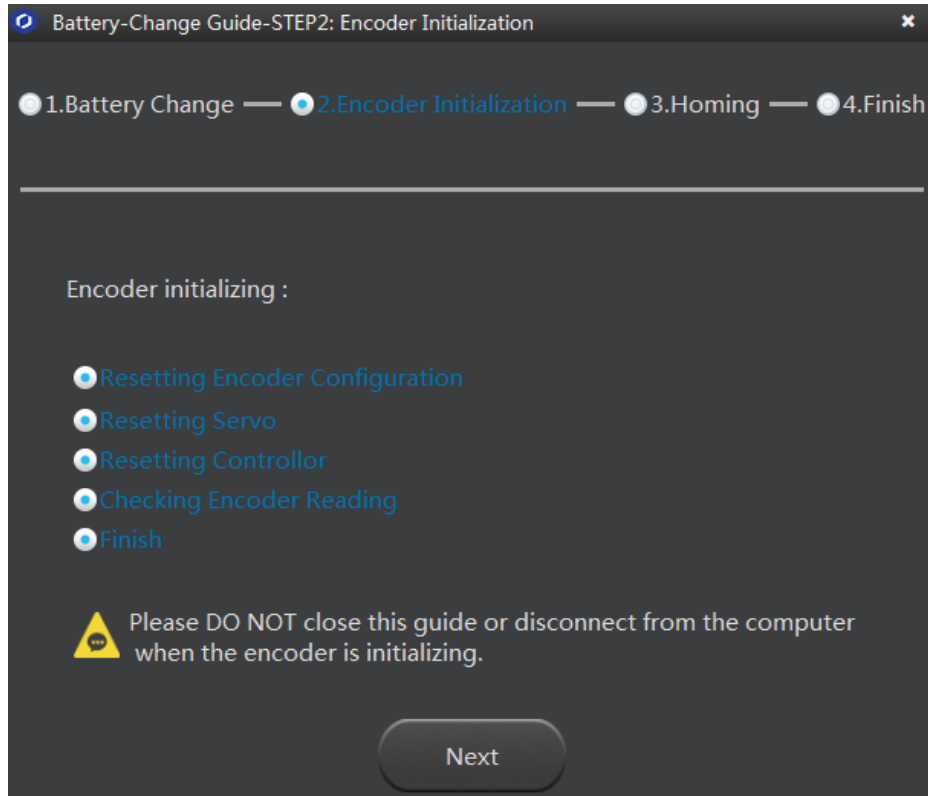

Figure 7.19 Initial Encoder
- Step 4** Click **Next** on the battery change guide page to automatically initial Encoder, as shown in Figure 7.19.